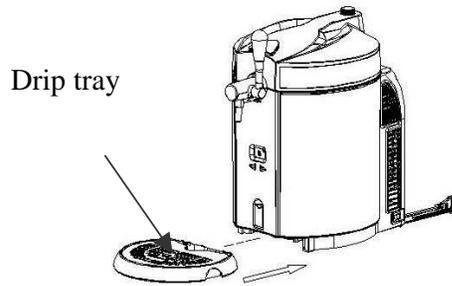

Figure 7
3. Set the water drip tray into the notch provided.(Show as figure 7)